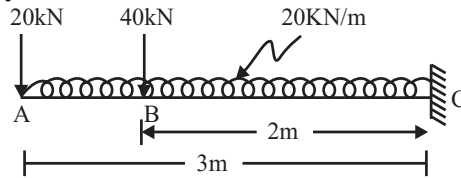

Fig 12.21
Q.17: Fig 12.21 shows vertical forces 20KN, 40KN and UDL of 20KN/m in 3m lengths. Find the resultant force of the system and draw the shear force and B.M. diagram. (Dec-01)